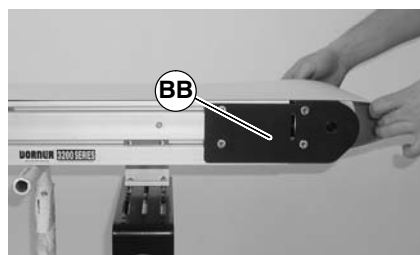

Figure 30
5. Remove belt (BB of Figure 30) from conveyor, one stand at a time. Start on one end of conveyor and work down to opposite end.